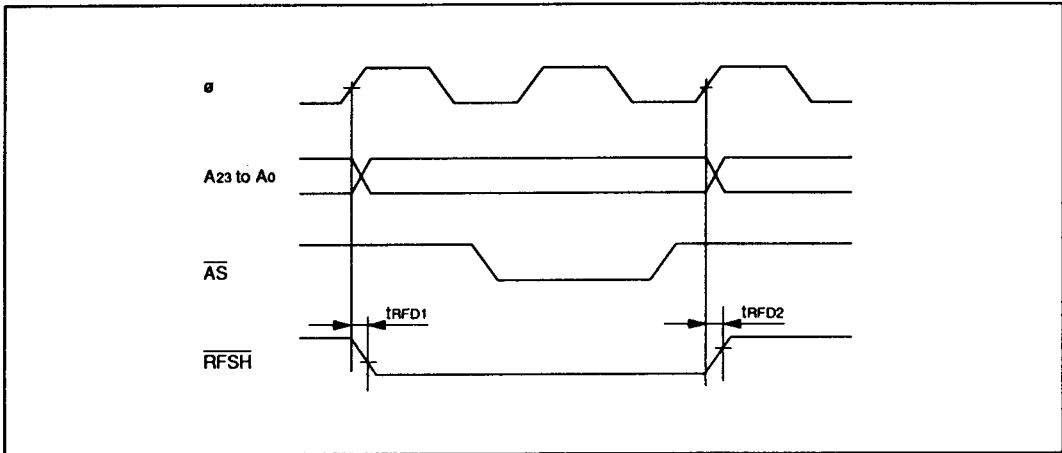

Figure 19-22 Basic Refresh Bus Cycle
19.3.8 Refresh Timing	Figures 19-22 and 19-23